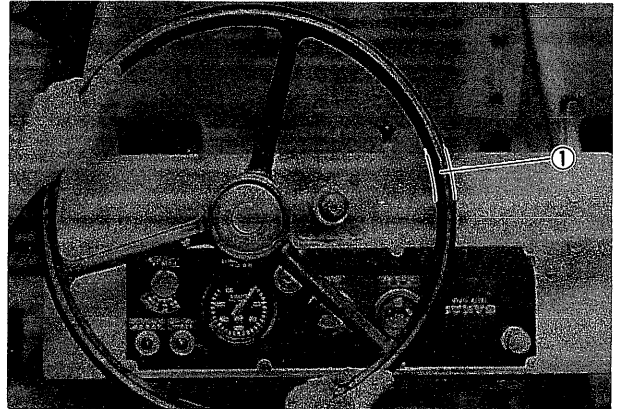

Fig. 121
- (2) Remove nut (12) and lockwasher (13). Separate steering wheel (1). (Fig. 119, Fig. 121)